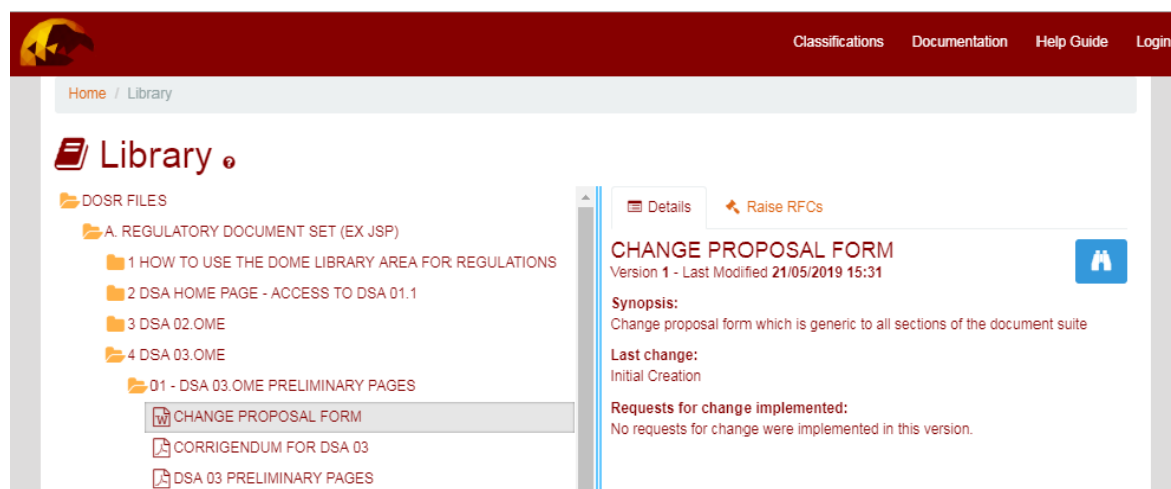

Figure 1. Change Proposal Form (Word version) Location
3. Proposed changes, recommendations or amendments to DOSR Regulations and Guidance publications can be submitted by anyone using the DOME Request for Change Function (RFC) available for every Dome publication in the DOME library located here or by completing the Word version of the Change Proposal Form available from the DOME Library, see figure 1 below for the location.